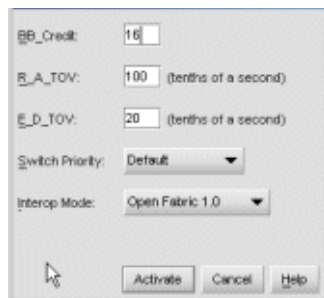

Figure 46: Configure Fabric Parameters dialog box
2. Choose **Configure > Operating Parameters > Fabric Parameters**. The Configure Fabric Parameters dialog box displays, as shown in Figure 46.